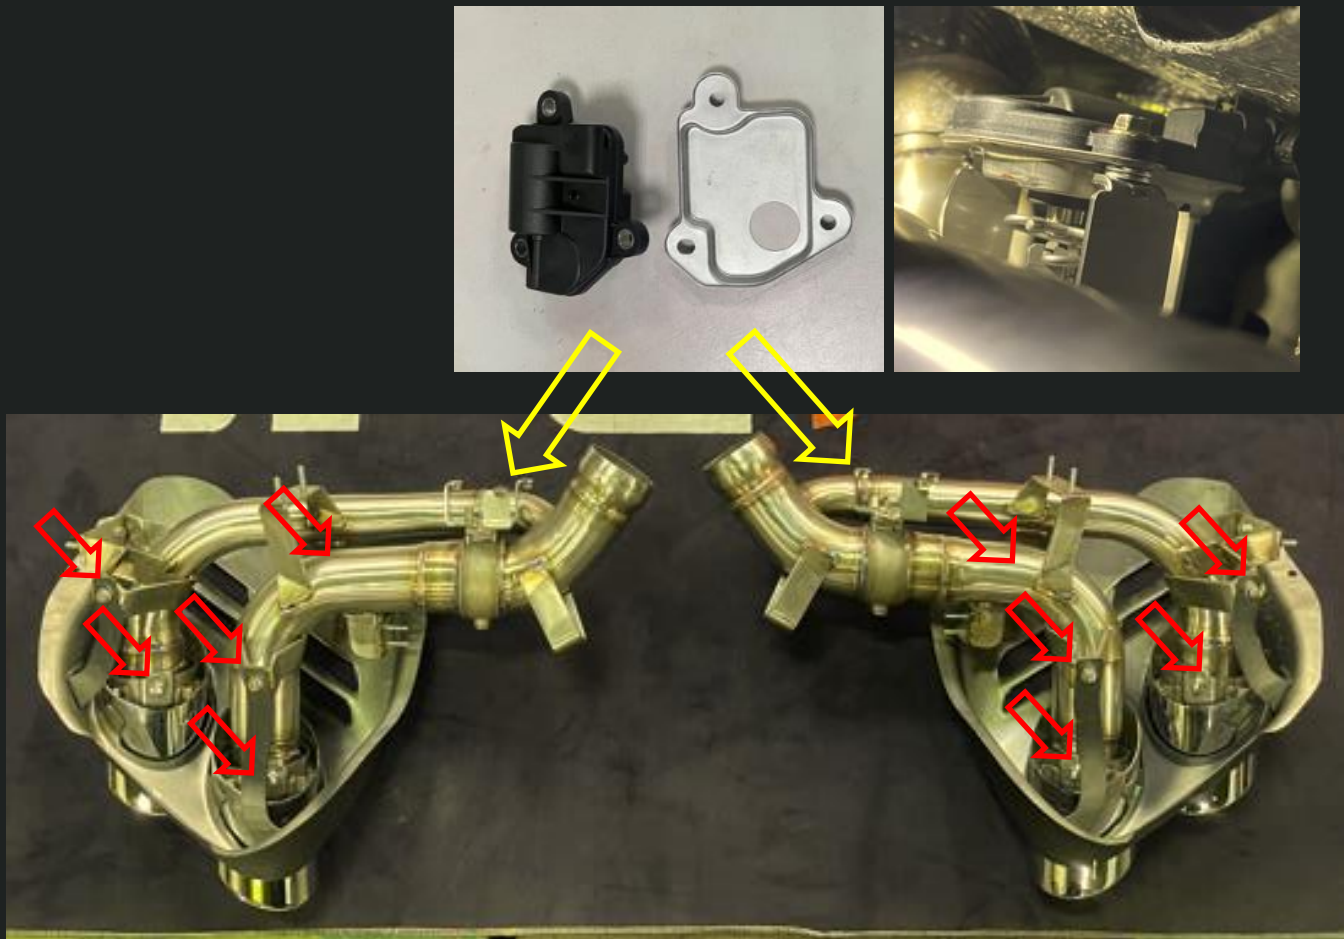

Figure 40
9. Install the tailpipes onto the IPE muffler (Figure 40, red arrows).
10. Install the factory motor, motor baseplate, and springs onto the IPE muffler (Figure 40, yellow arrows).